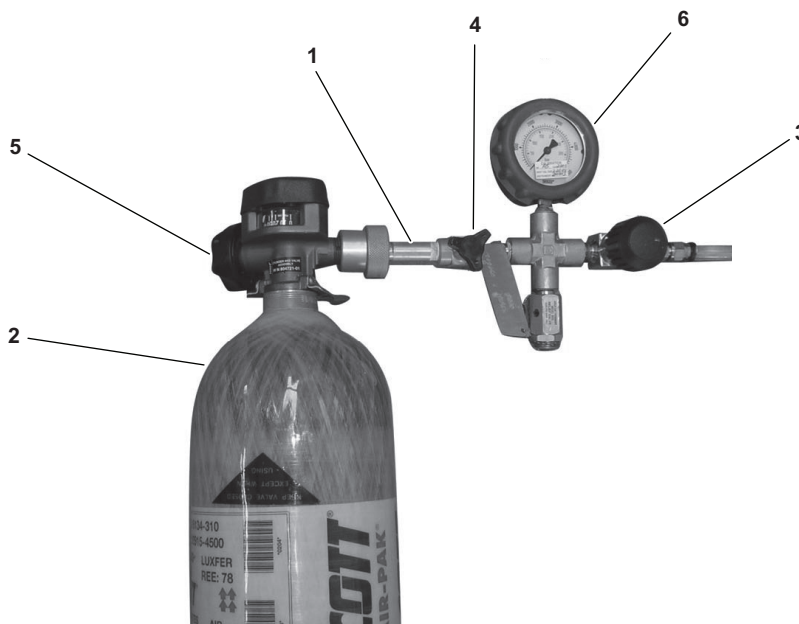

Figure 2-21. Fill Hose Assembly Attached to SCBA Cylinder
- b. Connect the fill hose assembly (figure 2-21, item 1) to the SCBA cylinder (figure 2-21, item 2).
- c. Ensure that the fill hose shutoff valve (figure 2-21, item 3) and the bleed valve (figure 2-21, item 4) are closed by turning both fully CW.
- d. Open the SCBA cylinder valve (figure 2-21, item 5) by turning it fully CCW and then backing off 1/4 turn.
- e. Fully open (CCW) the fill hose shutoff valve (figure 2-21, item 3) on the fill hose assembly (figure 2-21, item 1).
- f. Observe the pressure gauge (figure 2-21, item 6). Close (CW) the fill hose shutoff valve (figure 2-21, item 3) when the pressure gauge indicates 4,500 PSI.
- g. Fully close (CW) the SCBA cylinder valve (figure 2-21, item 5).
- h. Slowly open (CCW) the fill hose bleed valve (figure 2-21, item 4) until airflow stops (2-3 seconds). Close (CW) the fill hose bleed valve.
- i. Remove the SCBA cylinder (figure 2-21, item 2) from the fill hose assembly (figure 2-21, item 1).